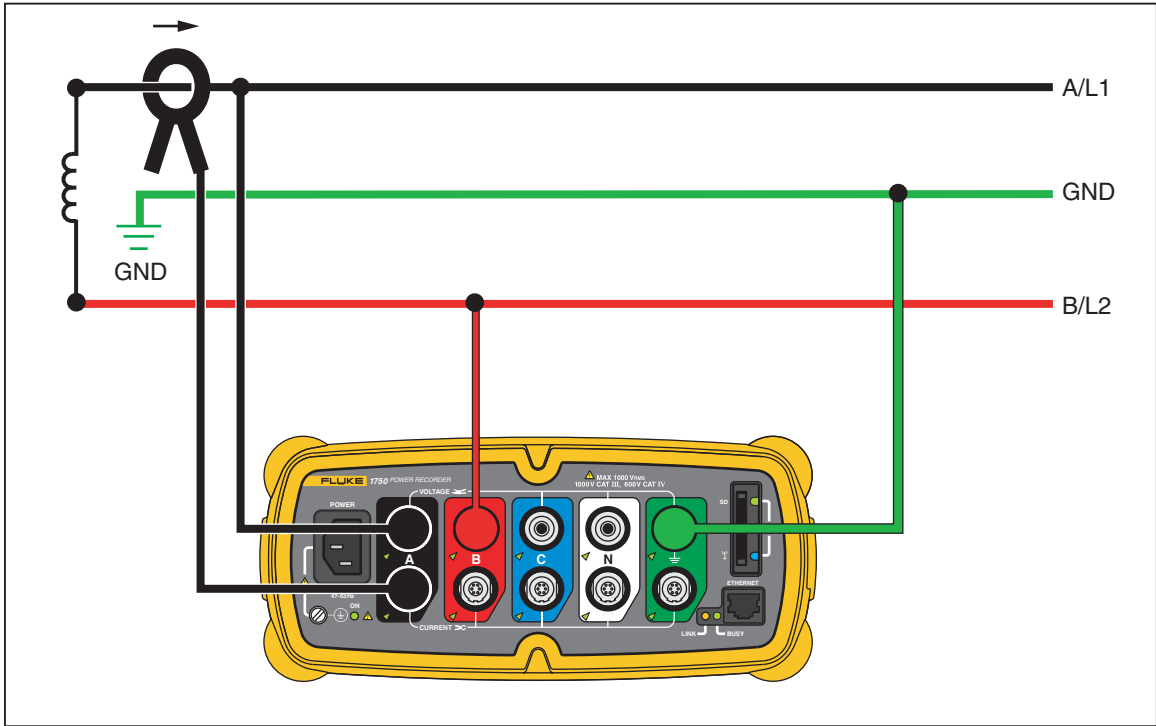

Figure 5. One-Phase IT No Neutral
- One-Phase IT No Neutral (Figure 5)